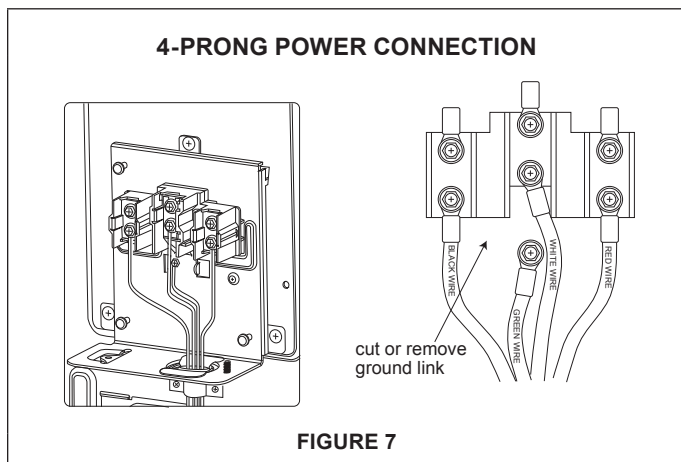

FIGURE 7
- 1 Thread the power cord and leads through the opening below the terminal block. See Figure 7.